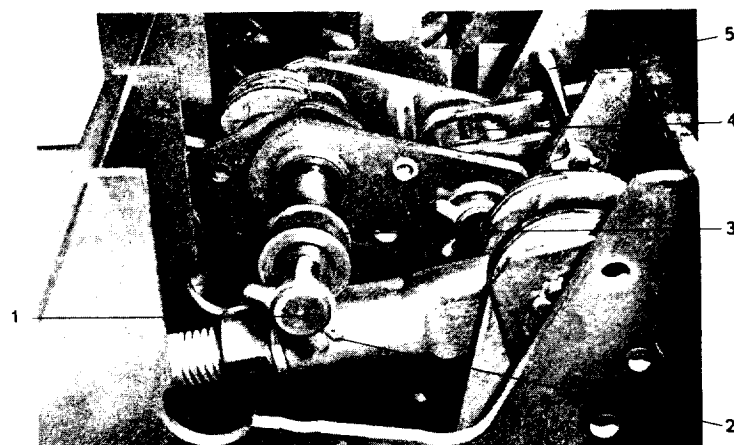

Fig. A12 Toggle Pin and Trip Roller
The toggle pin, (1) Fig. A12, may be replaced by removing the pin retaining ring on the end of the pin nearest the front of the breaker mechanism and pulling the pin out of the toggle linkage toward the back of the breaker mechanism. **THIS MUST BE DONE WITH THE BREAKER OPEN AND THE CLOSING SPRING CHARGED AND GAGGED.** Retain the spacers, (3) Fig. A12, for reuse.
The trip roller, (4) Fig. A12, may be replaced by first removing the toggle pin and then removing the toggle positioning ring, (5) Fig. A12. Remove the pin retaining ring nearest the front of the breaker mechanism on the pin which mounts the trip roller to the toggle linkage. Pull the pin toward the rear of the breaker mechanism, until the trip roller can be removed.